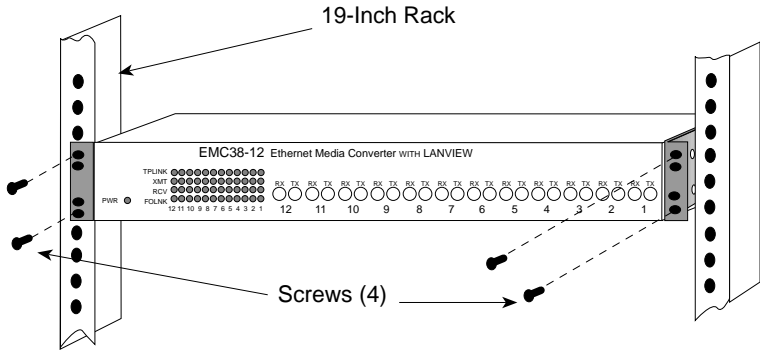

Figure 2-2. Installing the EMC38-12 in a 19-Inch Rack
3. With the rack mounting brackets installed, position the EMC38-12 between the vertical frame members of the 19-inch rack and fasten it securely with the mounting screws as shown in Figure 2-2.